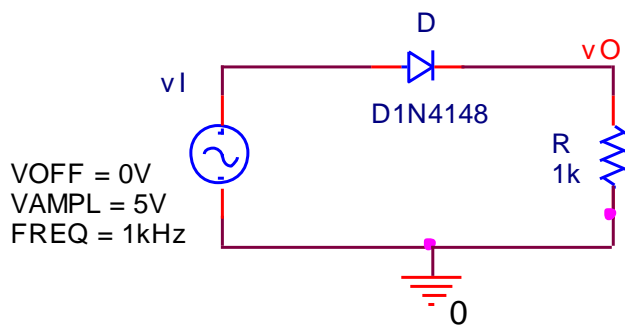
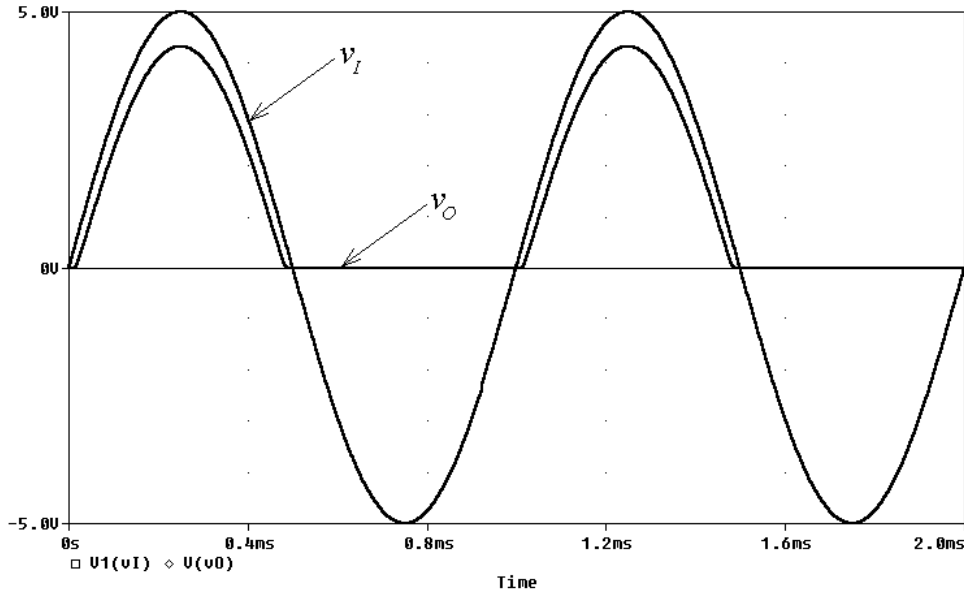
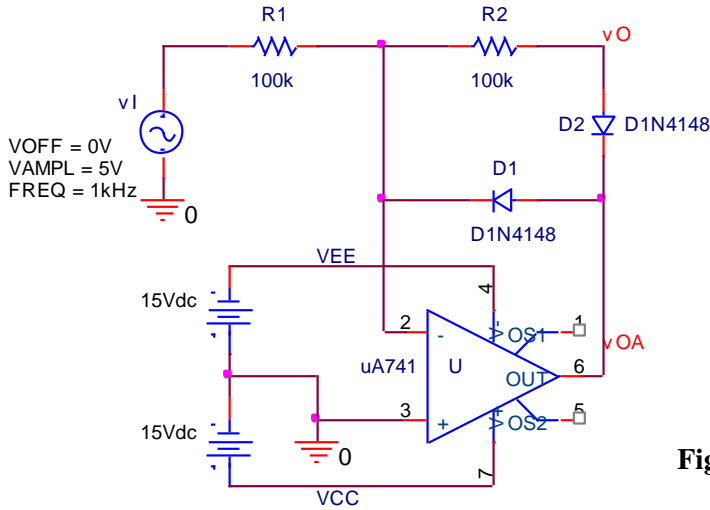
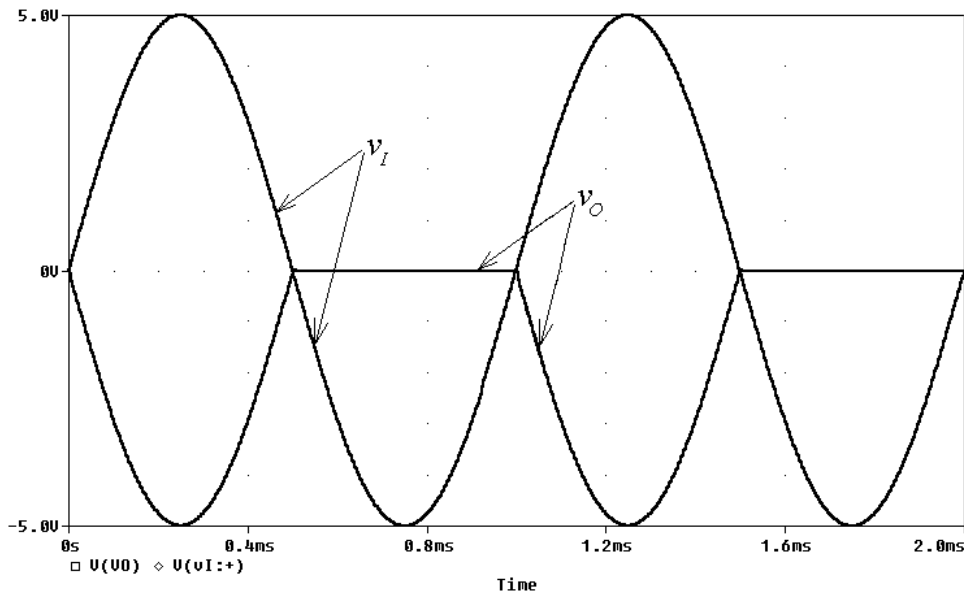

Fig. 2 – Simple *half-wave rectifier*.
Fig. 3 – Waveforms for the circuit of Fig. 2.
Fig. 10 – Precision half-wave rectifier.
Fig. 11 – Waveforms for the circuit of Fig. 10.
Diode circuits are readily simulated using PSpice. The PSpice library contains models for popular junction diodes, such as the 1N4148 rectifier diode and the 1N750 4.7-V zener diode. Figure 2 shows a PSpice circuit to simulate a simple half-wave rectifier, and Fig. 3 depicts the input and output waveforms. You can simulate this circuit by downloading its appropriate files from the Web. To this end, go to <http://online.sfsu.edu/~sfranco/CoursesAndLabs/Labs/301Labs.html>, and once there, click on **PSpice Examples**. Then, follow the instructions contained in the **Readme** file.
S7: By a procedure similar to that in connection with Fig. 2, simulate the circuit of Step M6 via LTSpice, and plot both v_O and its RMS value V_{rms} for about half a dozen periods. To plot v_O , select the trace $V(VO)$, and to plot V_{rms} , select the trace $RMS(V(V(0)))$. How does this value of V_{rms} compare with the measured value of Step M6? Justify any differences.
Figure 3 indicates that the presence of the diode drop $V_{D(\text{on})}$ causes an error of about 0.7 V in the output waveform that may be undesirable especially in precision rectifier applications. This error can be nulled by placing the diode (or diodes) inside the *feedback loop* of an *op amp*. Figure 10 shows a popular *precision half-wave rectifier* using this concept. Like its basic counterpart of Fig. 2, the circuit is readily simulated via LTSpice. The resulting waveforms of Fig. 11 reveal that the circuit gives
C14: Analyze the circuit of Fig. 10, and prove that Eq. (9) holds. *Hint:* You can gain additional insight by directing LTSpice to plot also v_{OA} , the waveform right at the op amp's output pin.